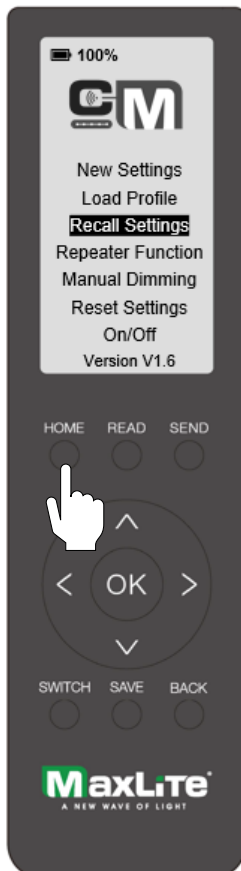

Fig 3A
1. Once the **HOME** screen is displayed, navigate to **RECALL SETTINGS** and highlight it, then press **OK** to enter **RECALL SETTINGS**. (Fig 3A)